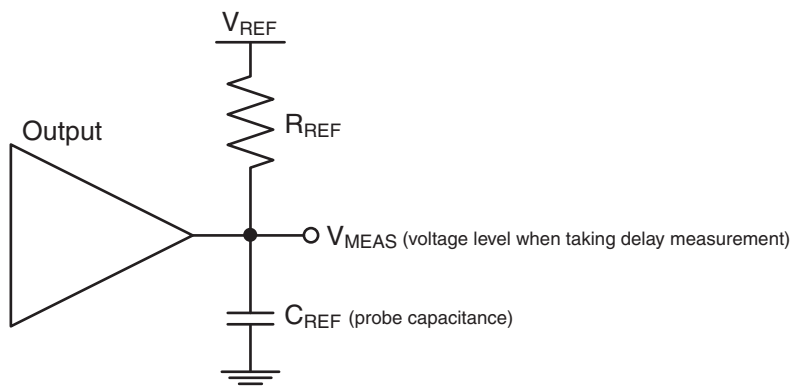
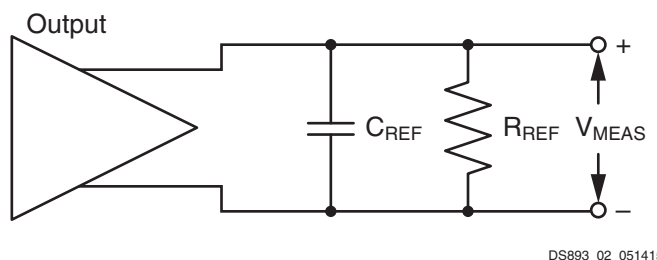

Figure 1: Single-Ended Test Setup
Figure 2: Differential Test Setup
5. This is an input voltage reference that bears no relation to the  $V_{REF}/V_{MEAS}$  parameters found in IBIS models and/or noted in Figure 1.
Output delays are measured with short output traces. Standard termination was used for all testing. The propagation delay of the trace is characterized separately and subtracted from the final measurement, and is therefore not included in the generalized test setups shown in Figure 1 and Figure 2.